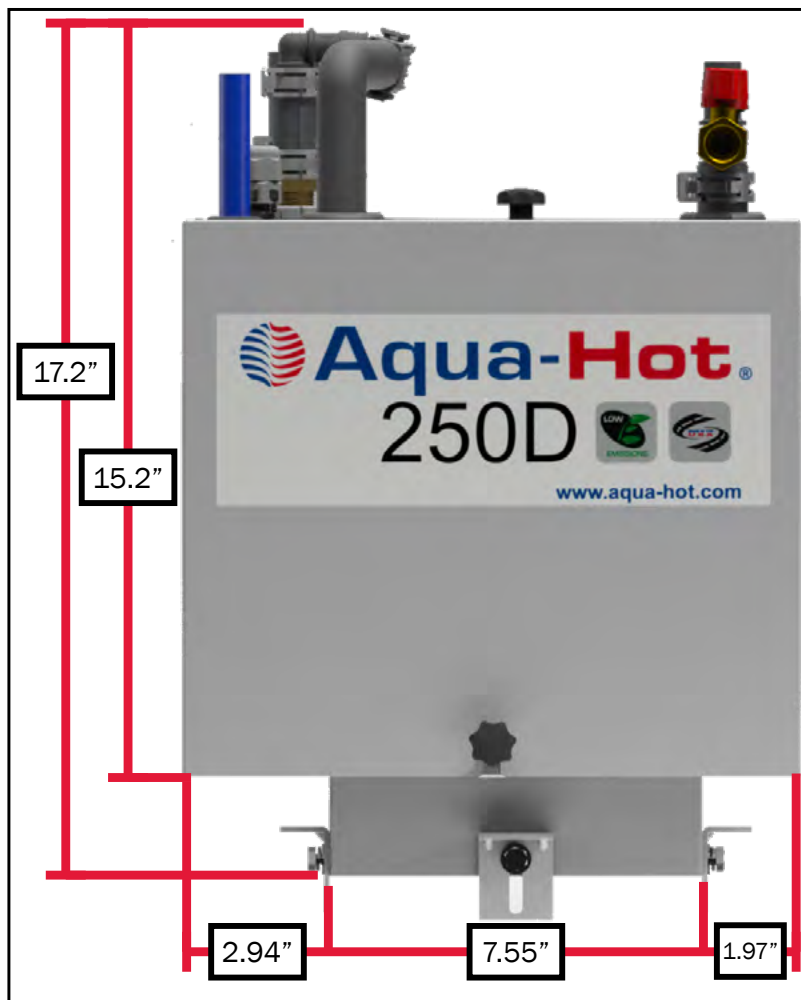

Figure 3
- Front view Aqua-Hot dimensions Figure 3.